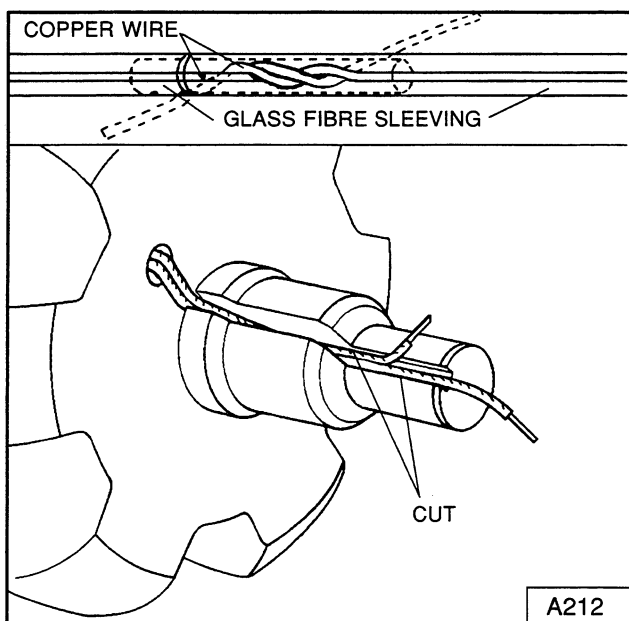

Fig. 2 Renewing the field coil leads
3.6 RENEWING THE SLIP-RINGS (See Fig. 2)
Cut the two leads as indicated in Fig. 2.
Taking each lead in turn, trim back a short length of the glass fibre sleeving and clean off the covering of the wire to expose the copper surface. Lightly twist a new length of 21 swg enamelled copper wire (Fig. 2) to the existing wire and solder the joint together. Snip off any excess wire.
Apply a coating of Z6/VA445 varnish to the joint. Slide a short length of 2 mm glass fibre sleeving (Fig. 2) over the joint so that it slides inside the existing sleeve. Apply a further coating of varnish to the sleeve and slide on a new length of 3 mm glass fibre sleeving to abut the original sleeve. Apply a final coating of Z6/VA445 varnish to the outside.